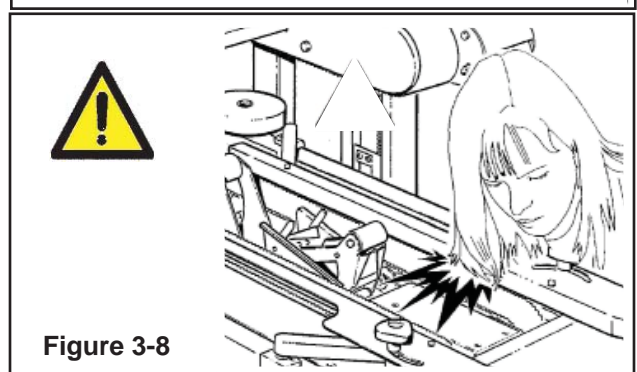

Figure 3-8
**Important!** Drive belts. Never work on the machine with loose hair or loose garments such as scarfs, ties or sleeves. Although protected, the drive belts may be dangerous (Figure 3-8).